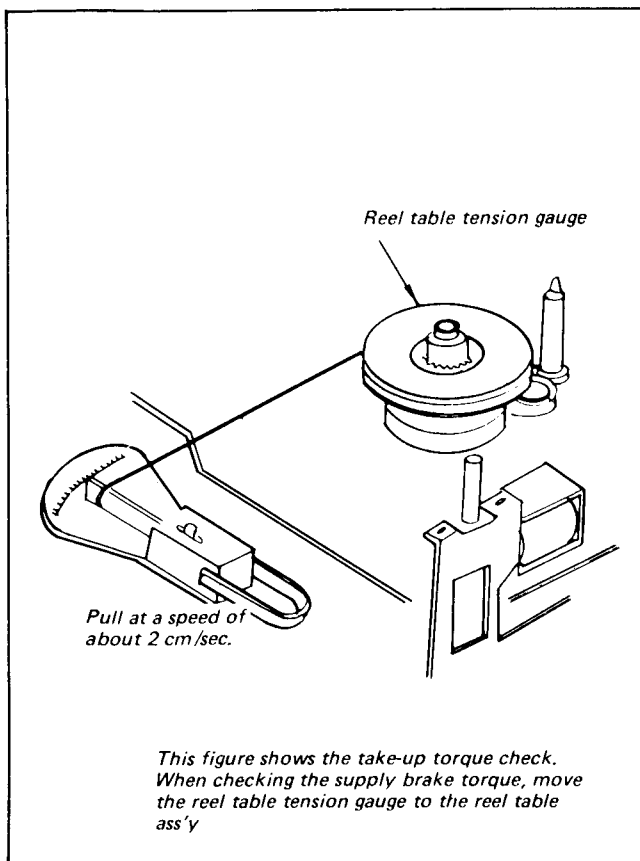

Fig. 3-20. Check of Supply and Take-up Brake Torque
- (2) Attach the reel table tension gauge to the take-up reel table as shown in Fig. 3-20 and hook the sector type gauge (100 g fullscale) to the end of the string. Pull the sector type gauge at a speed of about 2 cm/sec and observe the gauge reading.